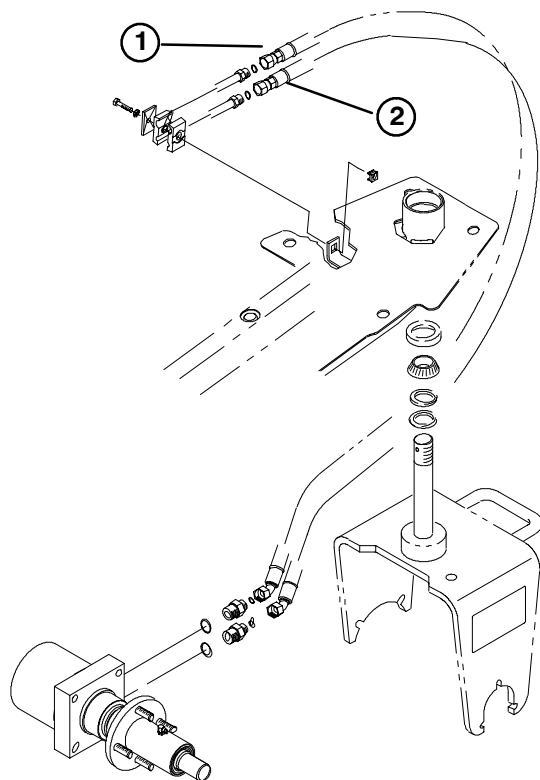

Figure 8
23. Loosely install rear motor hose from top hardline to top fitting on rear motor (Fig. 8).
24. Loosely install rear motor hose from bottom hardline to bottom fitting on rear motor (Fig. 8). Hoses must not contact tire or rim. Tighten fittings.